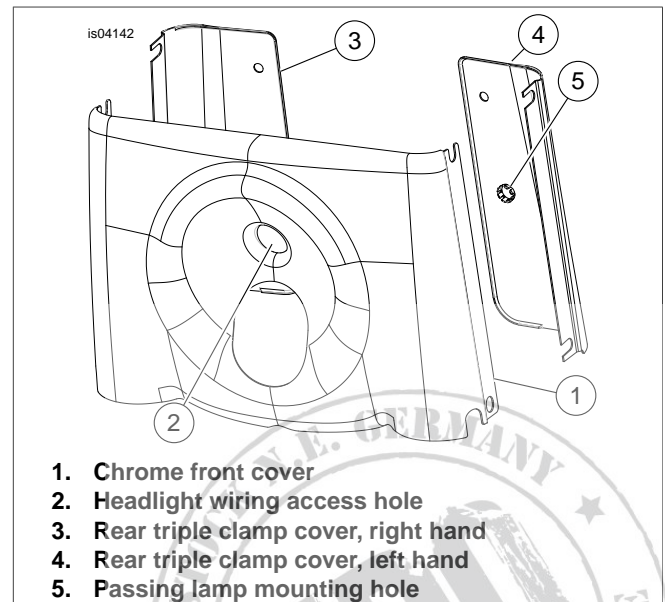

Figure 2. Smooth Chrome Fork Cover
6. See Figure 2. From kit, place front panel (1) into position.
8. Insert headlight wiring through hole (2) in front panel and connect wiring to main electrical harness.
10. Start with the left side and install the chrome rear triple clamp cover (4), and trim strip using screws removed earlier. Tighten fasteners.
11. Install the headlight switch thru switch hole (5) removed earlier.
12. Install the chrome right side rear triple clamp cover (3) and trim strip and tighten fasteners.